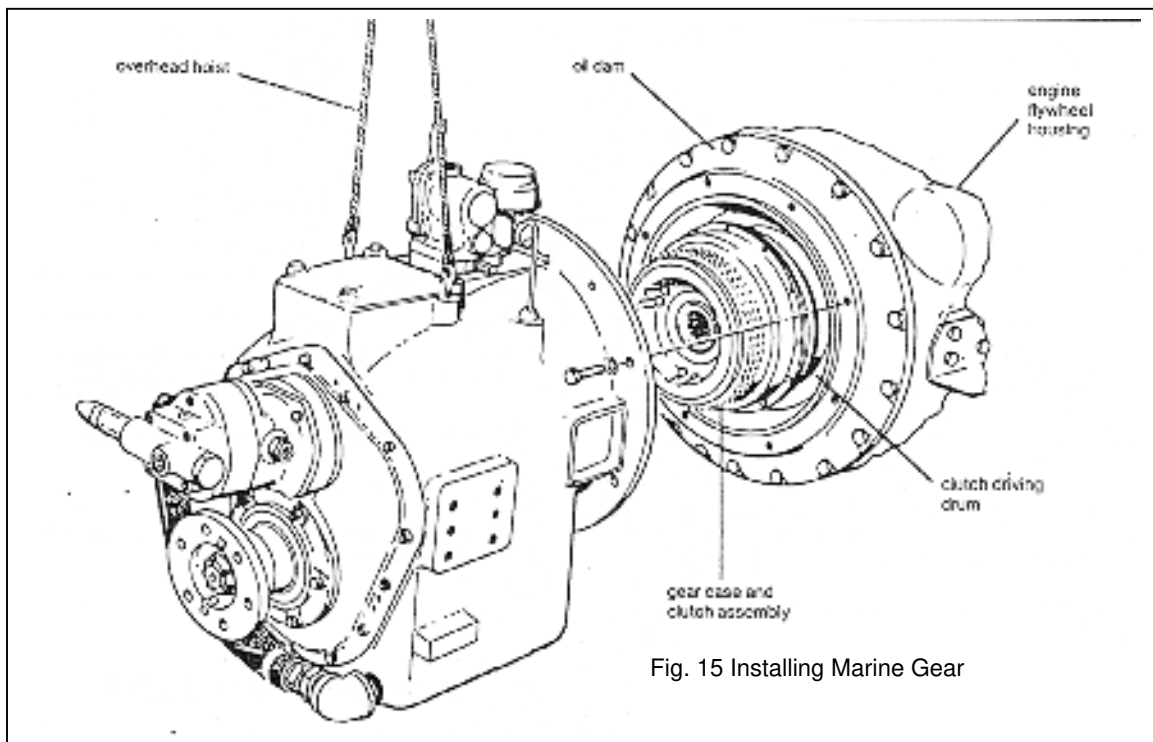

Fig. 15 Installing Marine Gear
1. using suitable hoist, lift marine gear assembly into position behind engine. Ease unit forward over clutch assembly, taking care that clutch discs enter reverse clutch drum properly so that teeth are not damaged. See fig. 15,p.7.